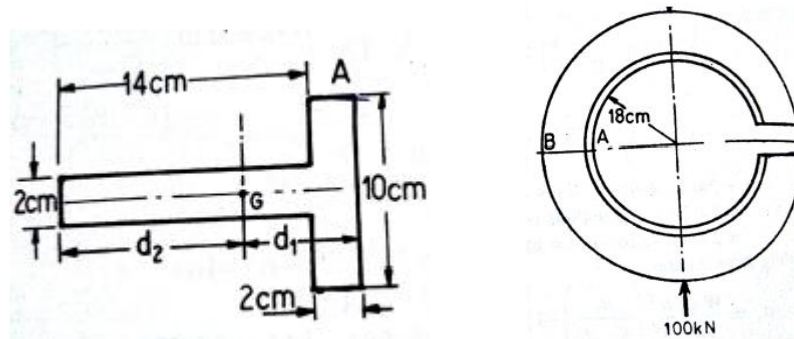

Fig.3
- B) An opening ring T-section as shown in fig.3; subjected to a compressive load of 100kN. Determine the stresses at A and B. 12M